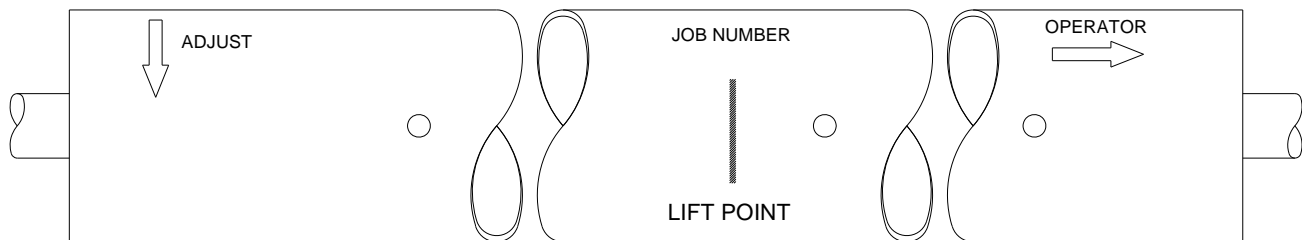

Figure 6.1 – Barrel Markings (right hand operation shown)
- Unpack the barrel assembly. Note the markings on the barrel, see **Figure 6.1** below.
- **Crane Hoisting:** Place a sling or lifting agent under the barrel assembly at the “lift point” provided on the barrel, see **Figure 6.1**.
- **Forklift Hoisting:** Space the forks evenly under the “lift point” provided on the barrel, see **Figure 6.1**. Ensure that the barrel assembly is positioned close enough to the tips of the forks that the fastening holes in the bracket can be aligned with those of the guides without the forks contacting the wall. Secure the barrel assembly to avoid the slipping off the tip of the forks.